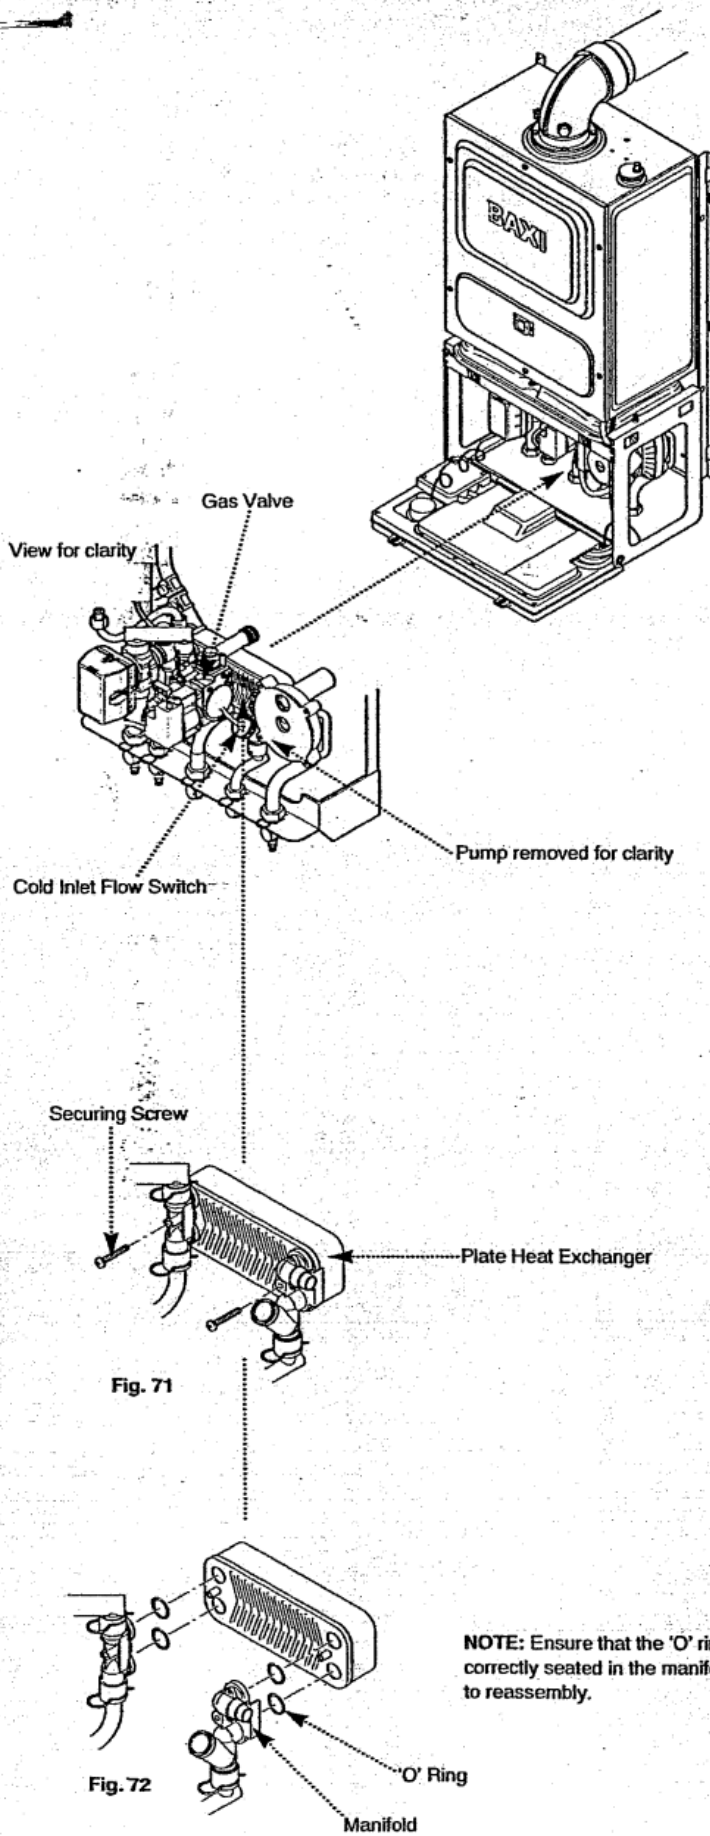

Fig. 71, 72
3. Remove the two screws securing the plate heat exchanger to the manifolds (Fig. 71).